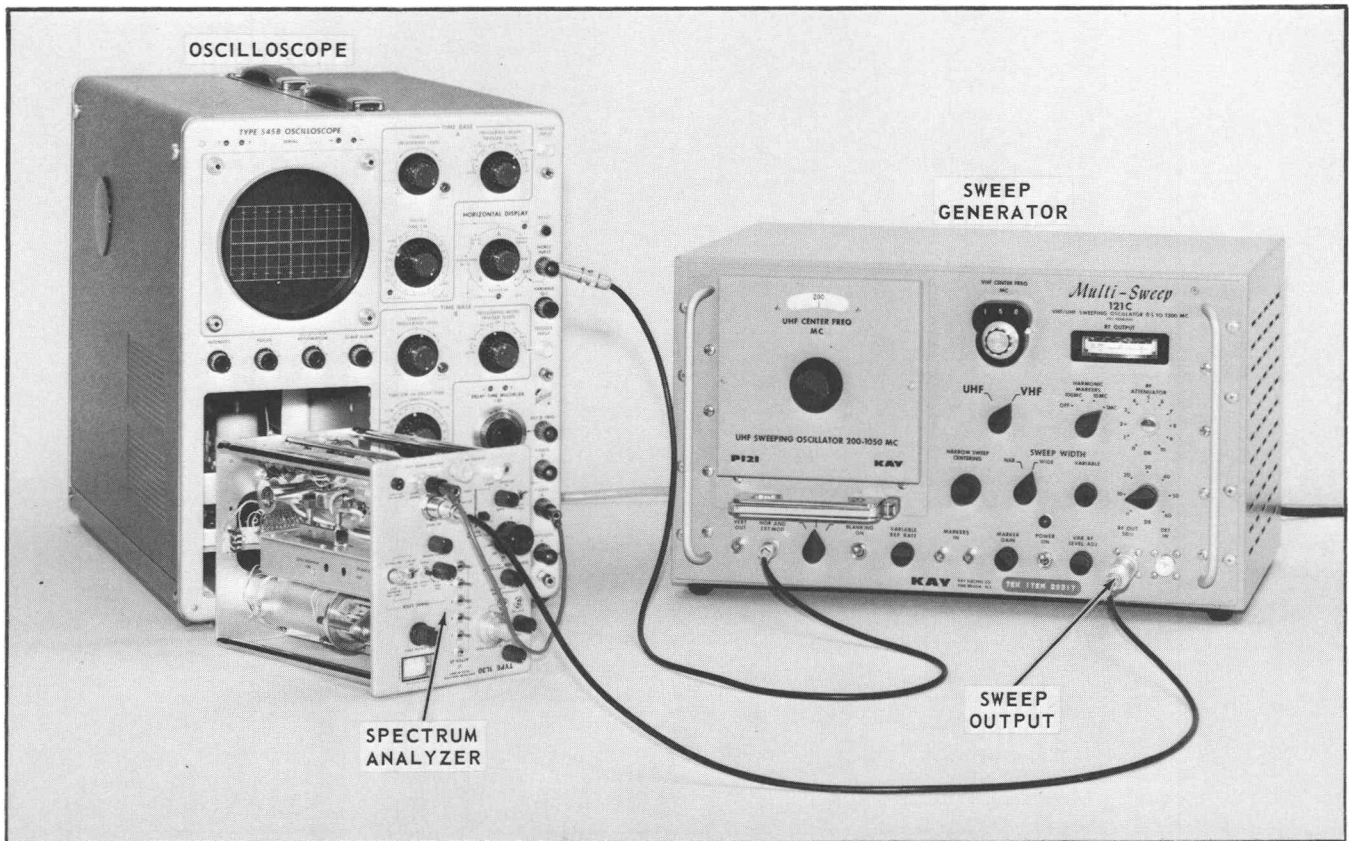

Fig. 6-16. Setup for adjusting Wide-Band Amplifier (Steps 9 and 10).
- a. Connect the equipment as shown in Fig. 6-16.